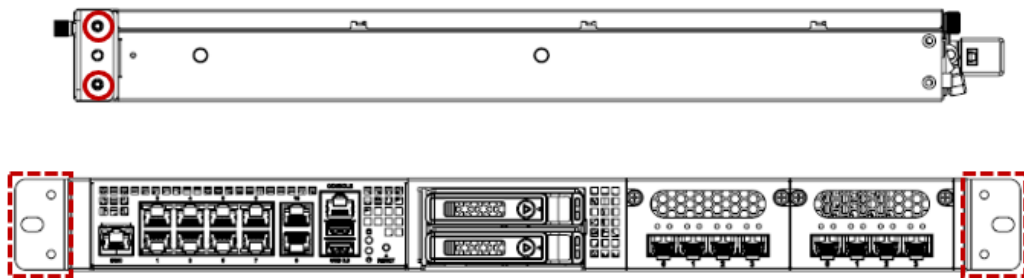

Figure 3-11: Rack Mount Bracket Installation
- Step 1:** Install the rack mount brackets to the sides of the PUZZLE-5070 by inserting two retention screws (M4*6) into each bracket (**Figure 3-11**). Make sure the screws are tight and on the right positions.